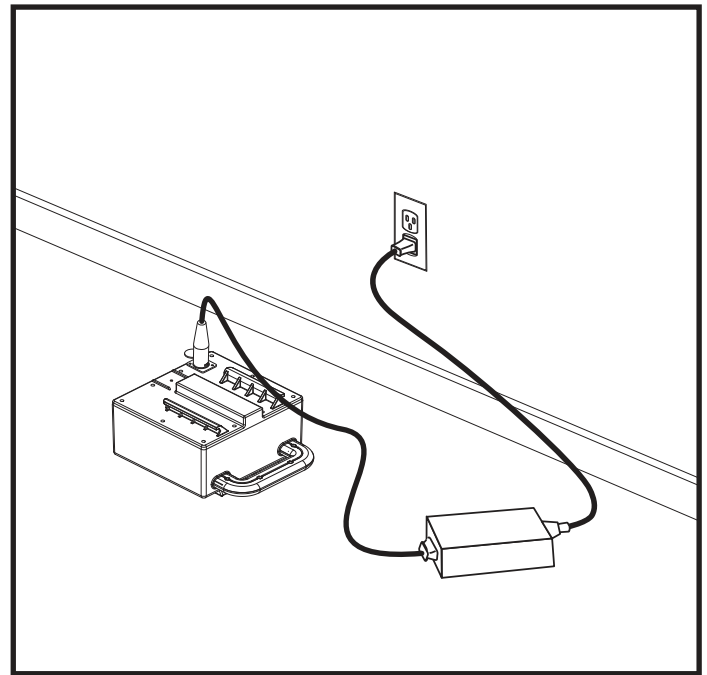

Figure 13. Battery Charging with the Battery Box
3. Plug the off-board charger into the battery box charger port. See figure 13.